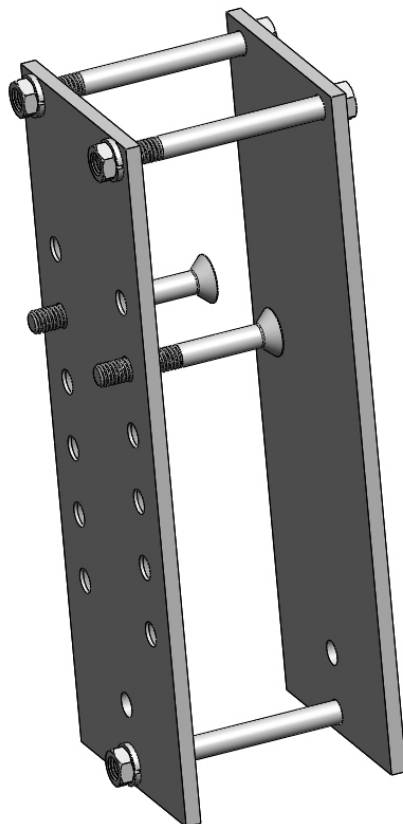

FIGURE 1-2
3. Choose the holes that best set the pump height closest to the floor pan. This will allow maximum clearance for road debris (on or off road). Feed the tapered head 3/8" bolts thru the back side of the bracket. **FIGURE 1-2**